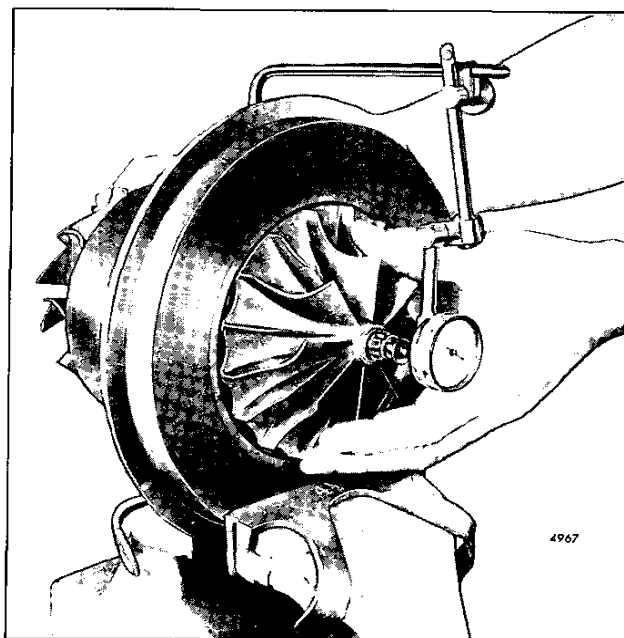

Fig. 20 – Checking Bearing Axial End Play
- a. Clamp the center housing assembly in a bench vise equipped with soft jaws (Fig. 20).
- b. Fasten the dial indicator and magnetic base (J 7872-2) to the center housing so that the indicator tip rests on the end of the rotating shaft on the compressor side (Fig. 20).
18. Position the turbine housing (6) as marked at disassembly against the center housing (27) and secure it in place.